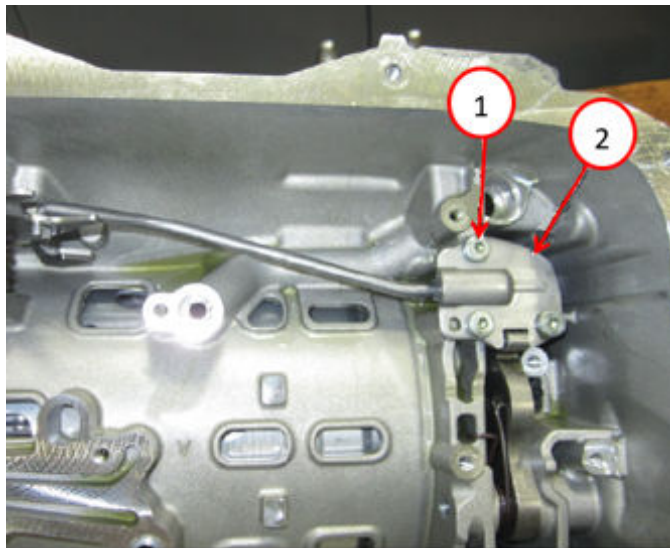

Fig. 35
55. Install the park pawl lock rod onto the fork Fig. 35.